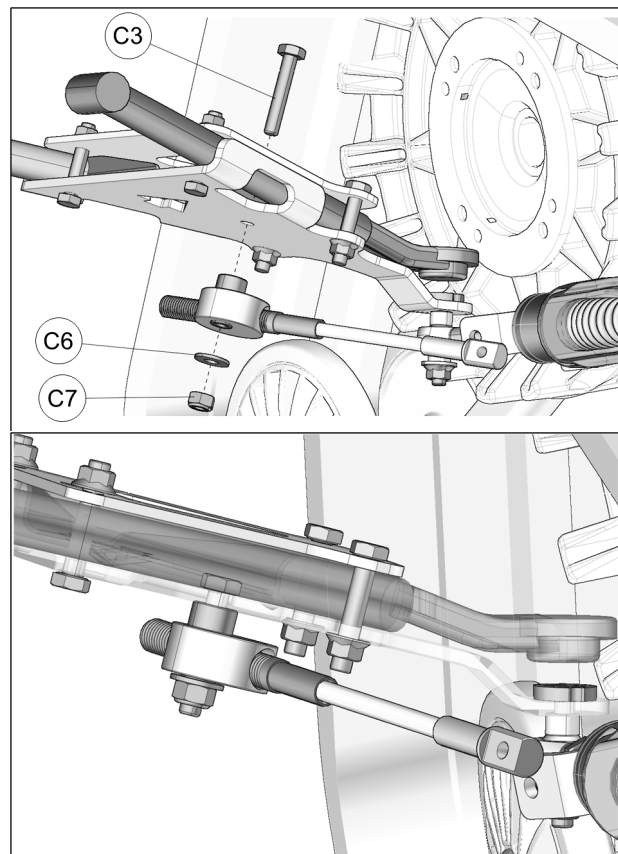

Fig. 23
14. Attach steering limiter cable assembly under anchor bracket using bolt (C3), inserted from the top, washer (C6) and nut (C7). Tighten nut to 50 N•m [37 lb•ft]. Refer to Fig. 23